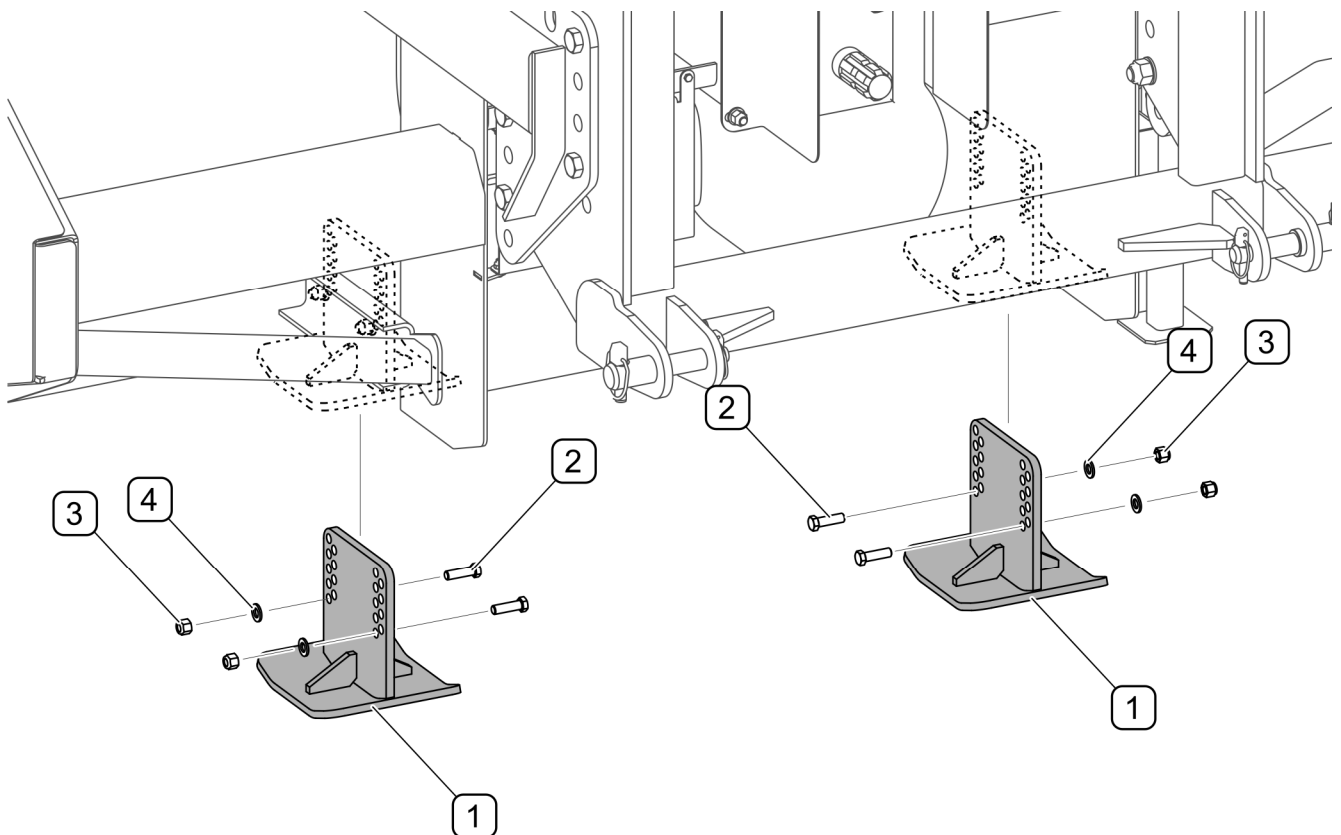

FIG. 5.6 Skid replacement
Excessively worn or damaged skids must be replaced. In order to do this raise the snow blower and support with sufficiently stable and strong supports. If the machine is hitched and raised on the linkage, protect it from falling and immobilise the carrying vehicle (turn off the engine and engage the parking brake.) Undo nuts (4), remove bolts (3) fixing skid (1) to the frame (FIGURE 5.6). The list of skids components including catalogue numbers is shown in TAB. 5.3.